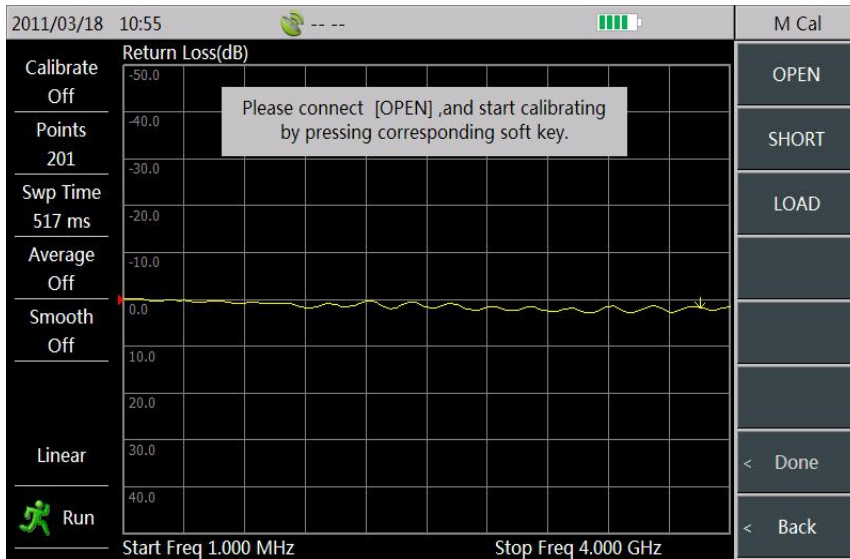

Figure 2-4 Mechanical Calibration Prompt
- Following by screen tips, connect the open circuit to the test port and select the [Open] menu. At this time, the screen will automatically prompt “[OPEN] Measuring.....”. When the [OPEN] menu becomes into [OPEN], it indicates the completion of the open circuit calibration, and then connect the calibration kit to calibrate other items according to screen tips. After [OPEN] is selected, tester’s software will give calibration prompt instructions, as shown in Figure 2-4.